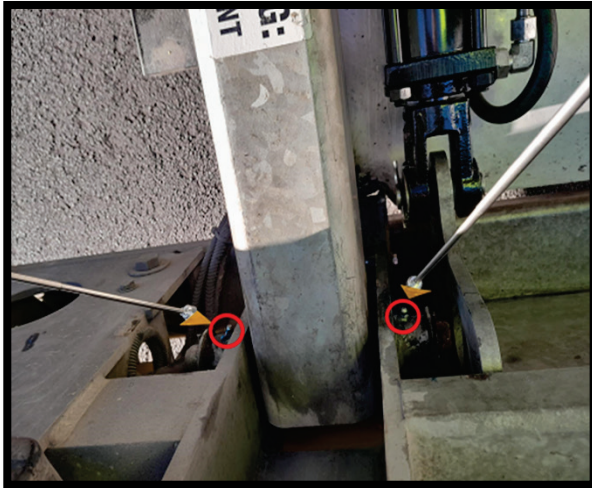

Fig.4 LHS grease points
- Has four grease points as per **Fig.4 & 5**